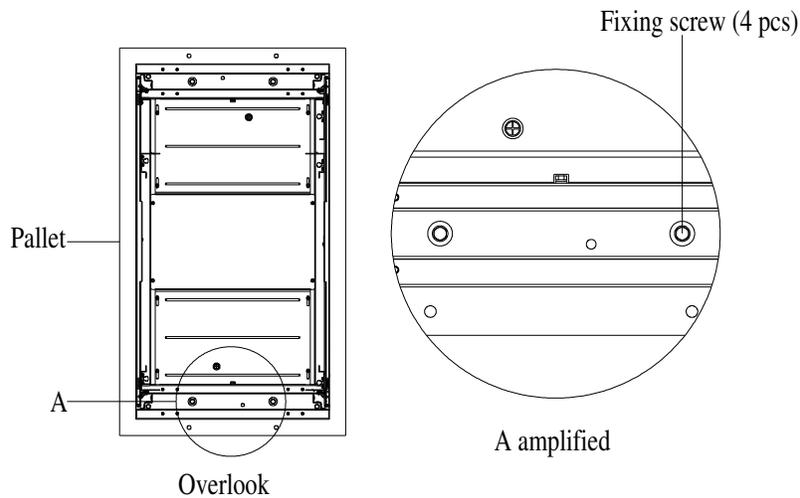

Figure 2-9 Pallet Disassembly Diagram
1. Use a hexagonal sleeve wrench (user-owned) to remove the M8 screws or bolts from the hole as shown in Figure 2-9, with a total of four bolts or screws in the front and rear.